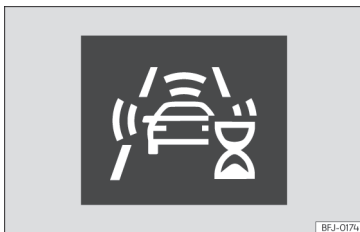

Fig. 115 On the instrument cluster screen: indication of the system's initial self-calibration.
- In the first few instants of driving after switching on the ignition, due to the system's initial auto-calibration. During this period, a status icon >>> **Fig. 115** is displayed.